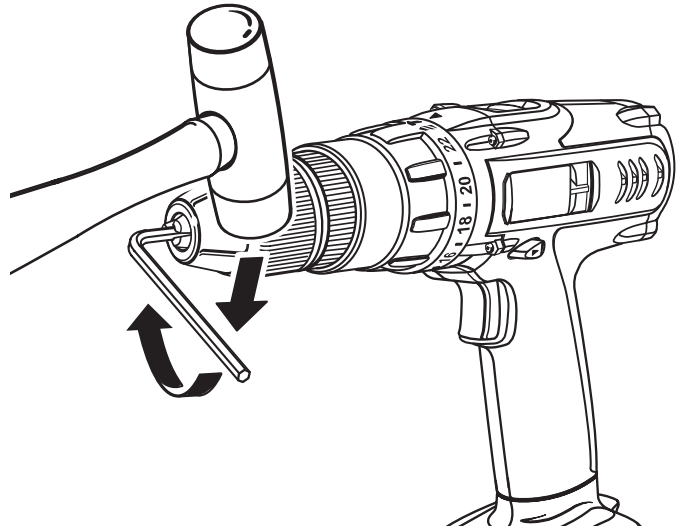

Fig. 17
See Figures 17, 18, and 19.
- Tap the hex key sharply with a mallet in a clockwise direction. See Figure 17. This will loosen the screw in the chuck for easy removal.
- Insert the hex key into the chuck and tighten chuck jaws securely. Tap the hex key sharply with a mallet in a clockwise direction. This will tighten the chuck on the spindle. *See Figure 17.*